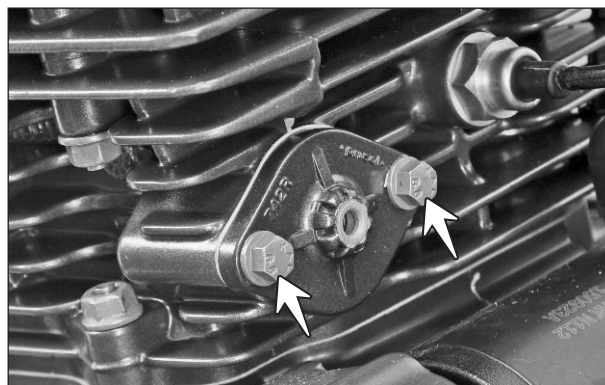

Fig. 3.27
- Remove the hexagonal flange bolts (M6x16 - 2 nos.) from the adjuster assembly mounting and take out the adjuster assembly along with a gasket. (Fig. 3.27)